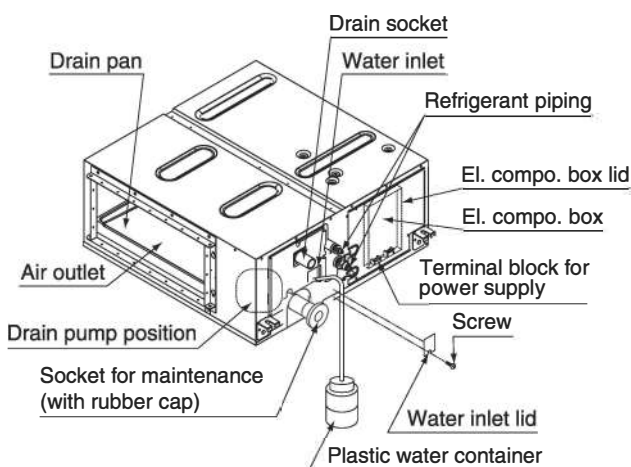

Fig. 15
- Gradually pour 1 liter of water from the inspection port at the bottom of the drain socket on the left side of the drain pan giving caution to avoid splashing water on the electric components such as drain pump and confirm drainage by operating the indoor unit under cooling mode according to 10. FIELD SETTING. (Refer to Fig. 15)
3. Gradually pour 1 liter of water from the air outlet on the left side of the drain socket into the drain pan giving caution to avoid splashing water on the electric components such as drain pump. (Refer to Fig. 15)